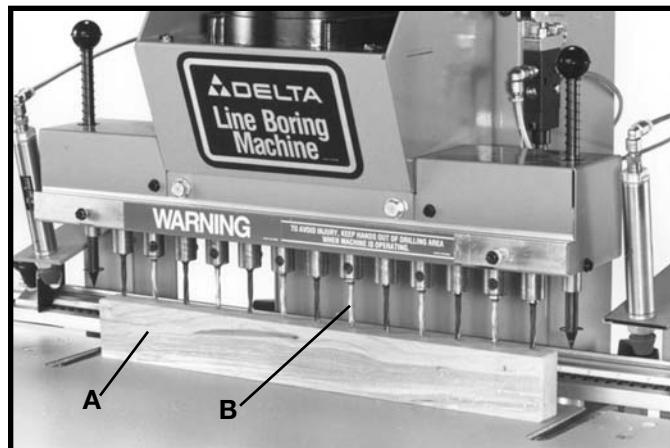

Fig. 38
1. Cut a straight piece of wood (A) Fig. 38, two inches high by sixteen inches long. Place the wood (A) on the table directly underneath the 13 boring bits (B) as shown.
2. If any of the boring bits (B) Fig. 38, are not contacting the wood surface (A), remove each bit that does not contact the board one at a time. Loosen the set screw in the shank end of the bit by the same amount that the bit does not contact the wood. Reassemble the bit into the same spindle as far as it will go, and tighten the spindle set screw. After all bits have been adjusted, go back and recheck the alignment.